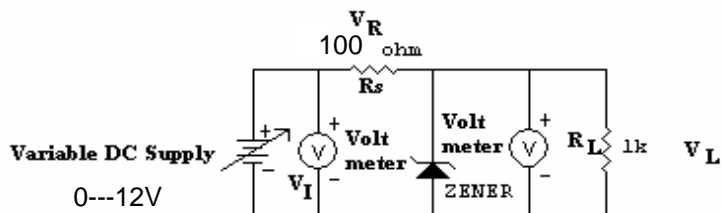

Fig 2
- iii. **SOURCE REGULATION:** Fig 2 shows the connection diagram of Source regulation. Here two voltmeters are connected in parallel with supply voltage and fixed load resistance (R_L) and dc supply is varied from 0 volt and onwards in the step of 1 volt.